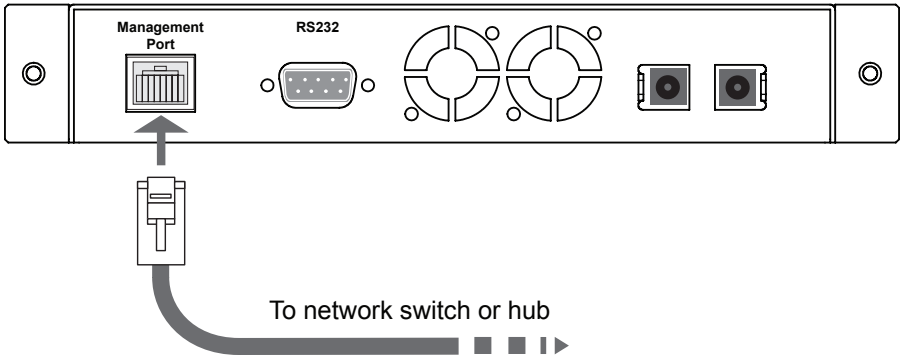

Figure 9: Connecting the Management Port
1. Connect a CAT5 cable to the Management Port as shown in Figure 9.